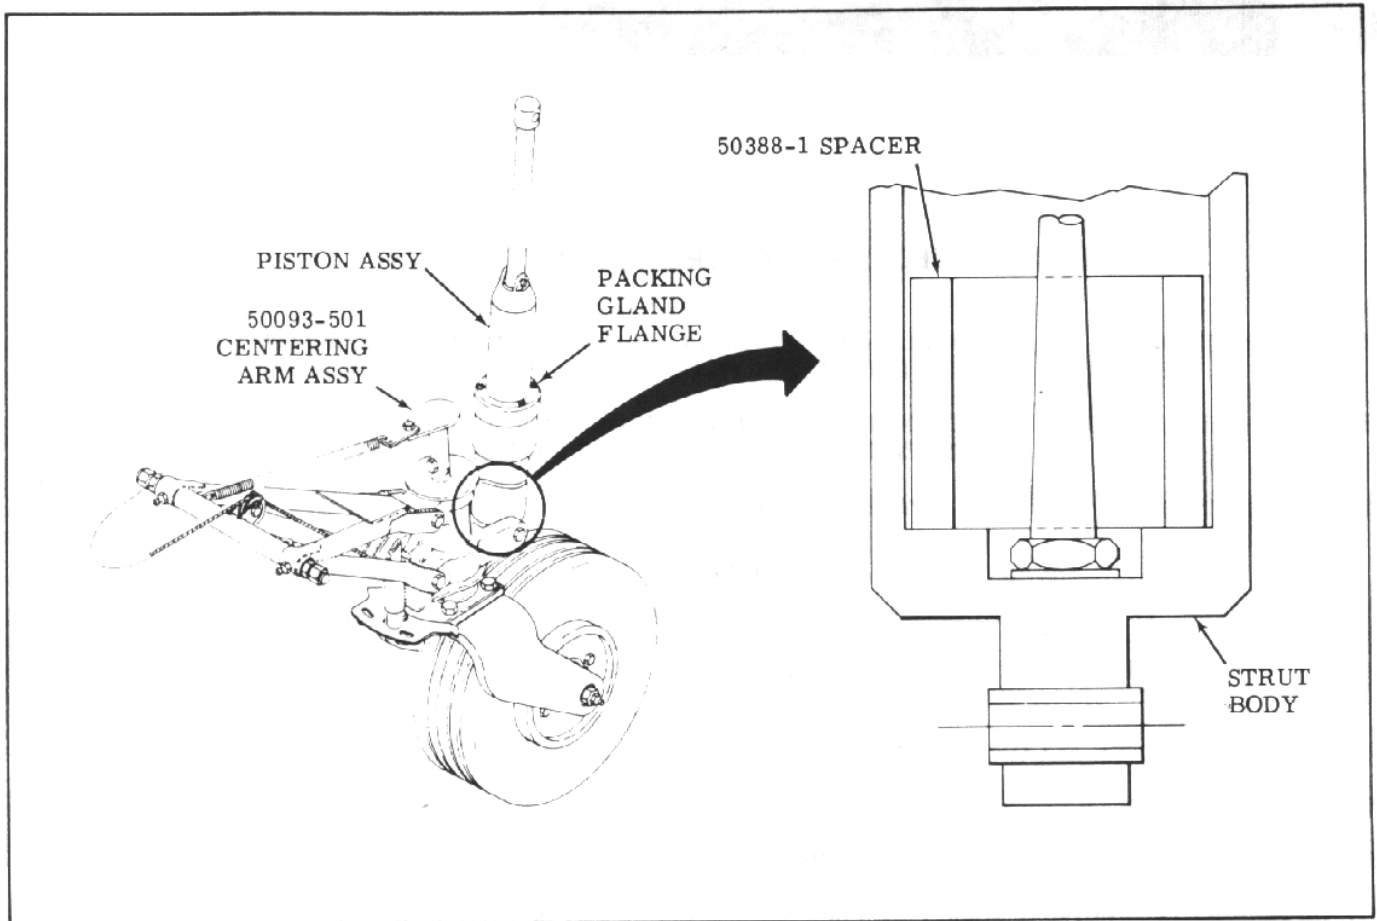

Figure 1.
- 6 Remove lockwire and four (4) nuts on the studs that hold the packing gland flange in place (see Figure 1).
- 8 Insert 50388-1 spacer in strut body (see Figure 1).
- 9 Reinstall piston assembly in strut body, tighten four (4) nuts just enough to prevent leakage past packing rings, and safety nuts with 0.040-inch diameter stainless steel safety wire.
- 13 Install new 50093-501 centering arm assembly using hardware (see Figure 1).